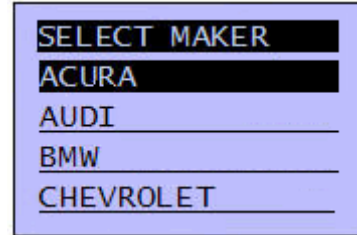

Figure 7
5. Press  key, the screen will change to as shown (Figure 7).